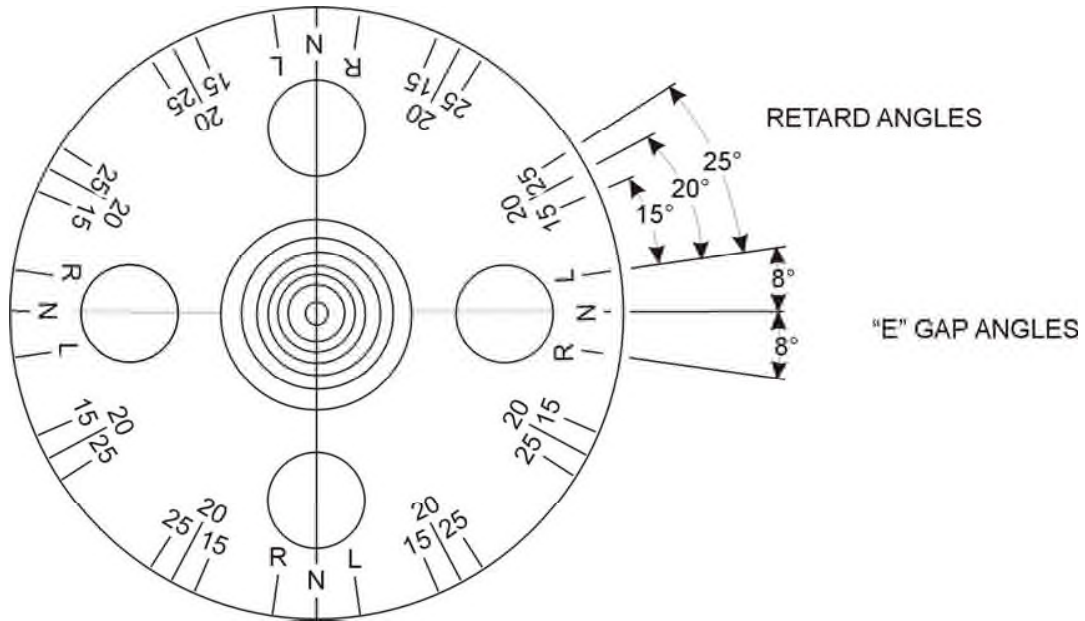

Figure 5-4. Timing Marks on Rotating Magnet
- (1) *Main Breakers* – Connect the timing light negative lead to any unpainted surface of the magneto. Connect one positive lead to the left main breaker terminal and the second positive lead to the right main breaker terminal.
- (2) Back the engine up a few degrees and again bump forward toward number one cylinder firing position while observing timing lights. Both lights should go out to indicate opening of the main breakers when the timing pointer is indicating within the width of the “L” or “R” mark. If breaker timing is incorrect, loosen breaker screws and correct. Retorque breaker screws to 20 to 25 in.-lbs.
- (3) *Retard Breaker* – Remove timing light leads from the main breaker terminals. Attach one positive lead to retard breaker terminal, and second positive lead to the tachometer breaker terminal, if used.
- (4) Back the engine up a few degrees and again bump forward toward number one cylinder firing position until pointer is aligned with 15° retard timing mark. See Figure 5-4. Retard breaker should just open at this position.
- (5) If retard timing is not correct, loosen cam securing screw and turn the retard breaker cam as required to mark retard breaker open per paragraph c(4). Retorque cam screw to 16 to 20 in.-lbs.
- (6) Observe that tachometer breaker is opened by the cam lobe. No synchronization of this breaker is required.
- (7) Check action of impulse coupling (D-2000 series only). With the ignition switch off observe breaker cam end of rotor while manually cranking engine through a firing sequence. Rotor should alternately stop and then (with an audible snap) be rotated rapidly through a retard firing position.